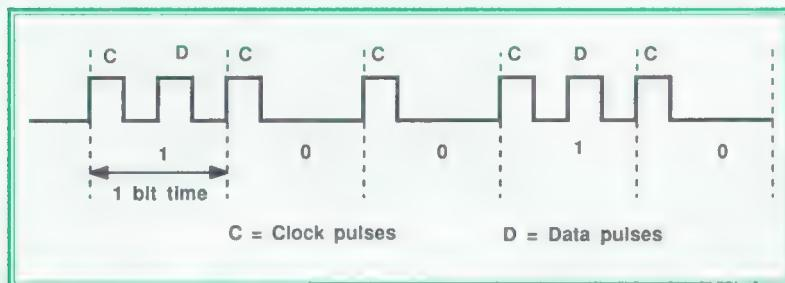

Figure 1. Data format for the value 10010 stored using FM
To get around this problem, two bits are recorded on the disc for each bit of data. The first bit is always a logic 1, and is called the *clock bit*. The second is the actual data bit. The bit pattern written to disc for the bits 10010 is shown in figure 1. The disc controller can synchronise itself to the clock pulses, and in this way cope with speed variations of up to several percent. This recording system is known as *Frequency Modulation* (FM).
While FM provides a solution, it is wasteful in that a clock bit is required for each bit. There is, however, a simple way of reducing this requirement. Referring to figure 1, it can be seen that when the data bits are ones, they could be used to synchronise the reading. With this in mind, it is only necessary to record a